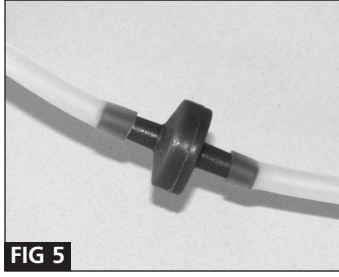

FIG 5
- To fit the non-return valve to the air pipe, cut the pipe and push the ends onto the inlet/outlet of the valve. This valve only works in one direction, which is indicated by the mark 'OUT' (See Fig 5). This valve ensures that water is not sucked back into the pump if the pump is installed below the pond's water level when the power supply is turned off.